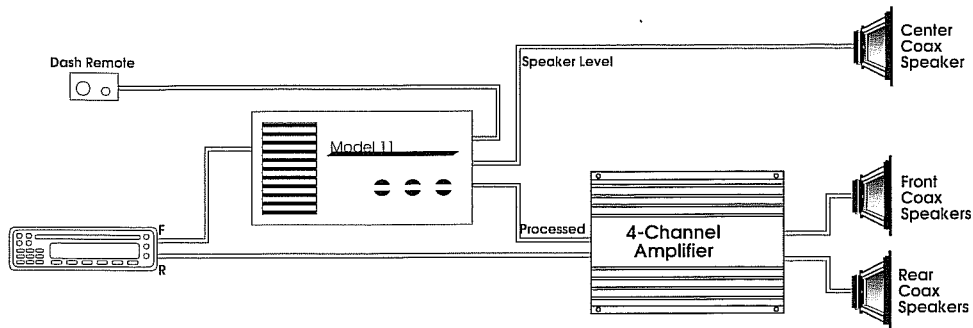

Figure 2. Adding the System 90 Model 11 to a 4-Channel system
For those of you who are short on time and have experience doing car audio installations refer to pages 5, 6, and 7 (Figures 2 and 3).
4. If you are using an equalizer or crossover, it should go after the System90 Model 11 and before the amplifiers, Figure 2.